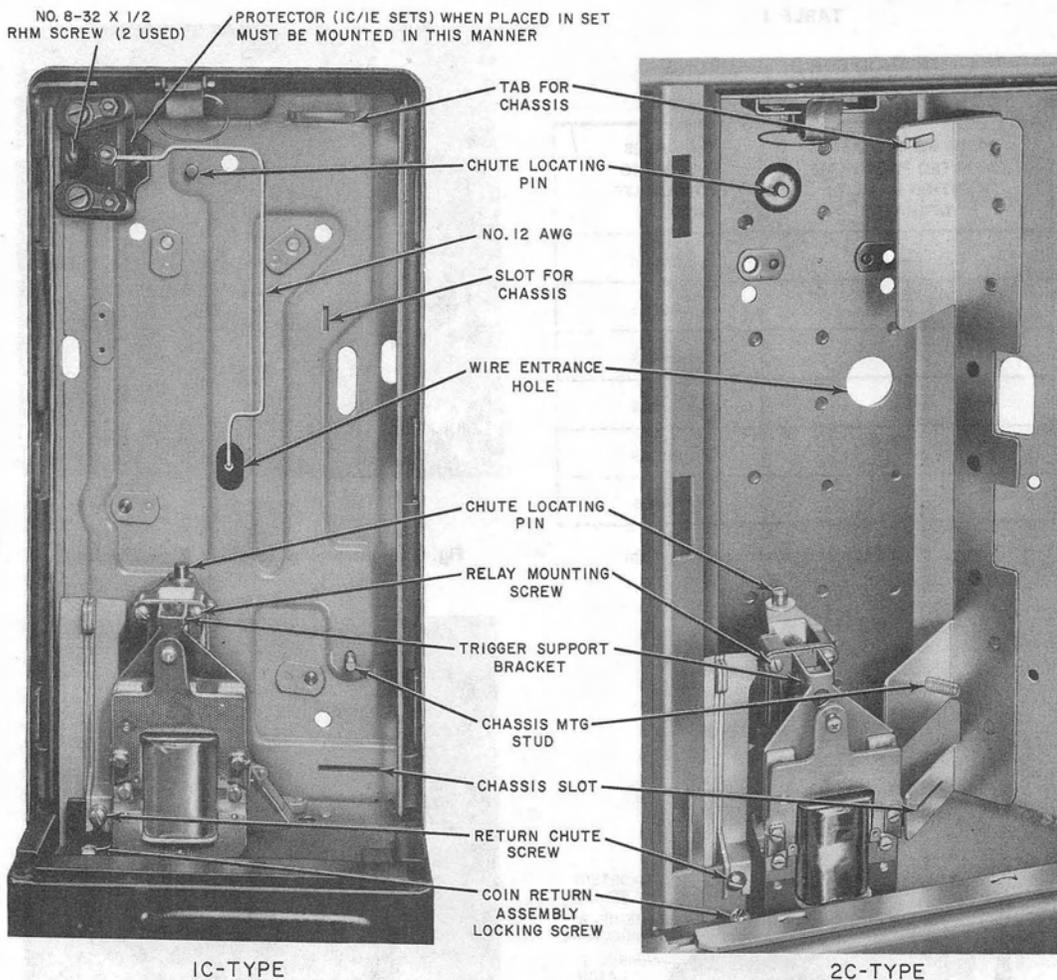

Fig. 13—Housing and Mounting Plate Assembly
- (1) Place chute on locating pins at rear of hopper assembly, and back of housing (Fig. 13).
(1) Slide chassis under tab (Fig. 13).
(2) Seat chassis tabs in slots.
(3) Tighten chassis mounting screw.
(4) On 1A/2A/1C/2C-type sets, thread (BK) and (Y) leads through eyelet on side of hopper.